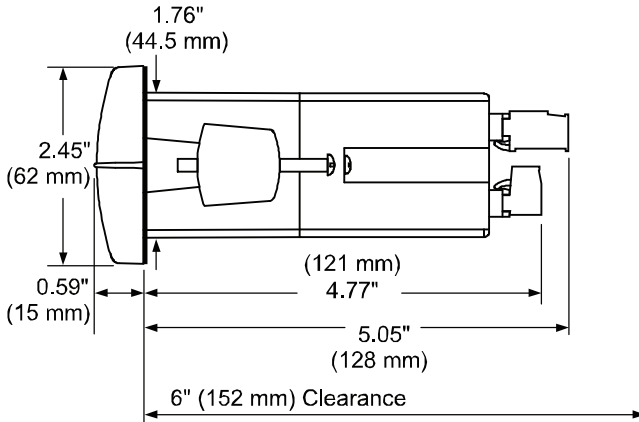

**Figure 1. 1/8 DIN Panel Cutout Dimensions**
- Prepare a standard 1/8 DIN panel cutout – 3.622" x 1.772" (92 mm x 45 mm). Refer to Figure 1 below, for more details.